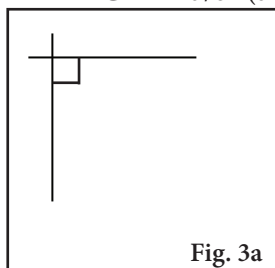
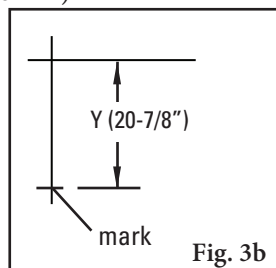
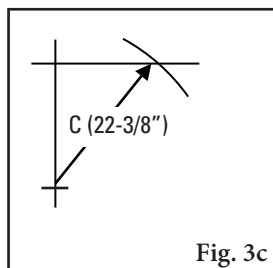

Fig. 3a
Fig. 3b
Fig. 3c
- 3. Determine final dimension.** On a flat vertical surface, using a level, draw one horizontal line and one vertical line creating a right triangle (Fig 3a). Measure down from the intersection the determined “Y” dimension and mark (Fig 3b). With the tape measure starting at the modified “Y” mark, swing the tape across the “X” line and mark at the “C” dimension where it crosses the “X” line (Fig 3c). Measure from the intersection to the “C” intersection and this will be your new “X” dimension (Fig. 3d).